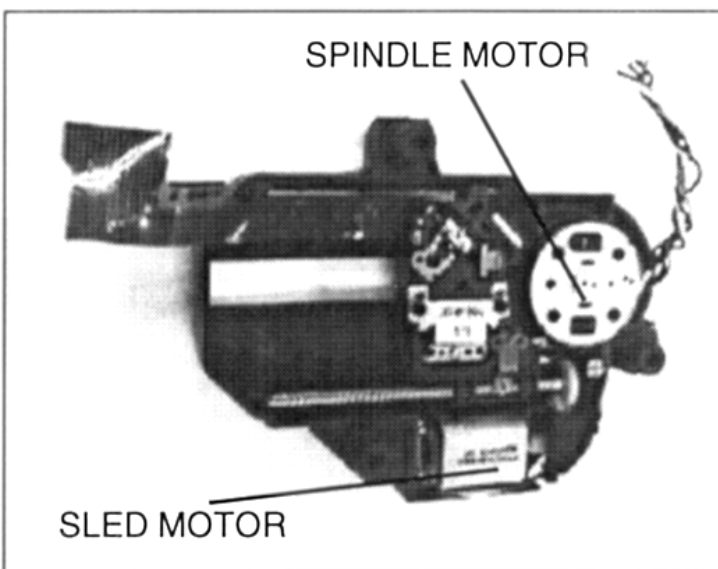

Fig. 7
- Unsolder the leads of Spindle and Sled Motor (Fig. 7)